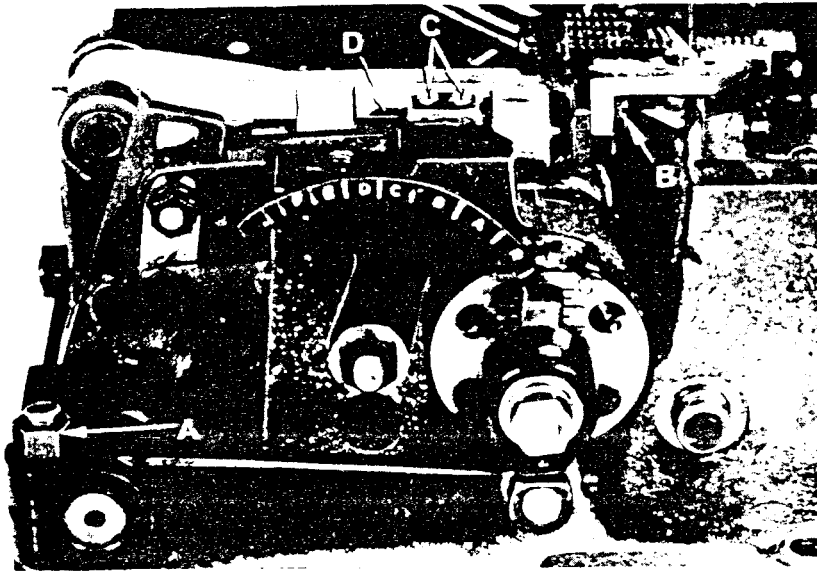

Fig. 9
The main feed dog should have equal clearance on all sides of feed slots in the throat plate at maximum feed travel. To adjust the main feed dog across-the-line-of-feed, loosen screws (C, Fig. 8) and position feed dog as required. Retighten screws (C). To adjust main feed dog in-line-of-feed, loosen nut (A, Fig. 9) and move feed bar as required. Retighten nut.
To raise or lower the differential feed dog, loosen screw (B, Fig. 9) and set the feed dog at the required height. Retighten screw.
Loosen set screws (C, Fig. 9) and move the differential feed bar (D) forward or backward as required. The loosening of set screws (C) will also allow the differential feed bar (D) to be rotated, so the differential feed dog can be aligned parallel with the top surface of the throat plate, across-the-line-of-feed. Tighten screws securely.